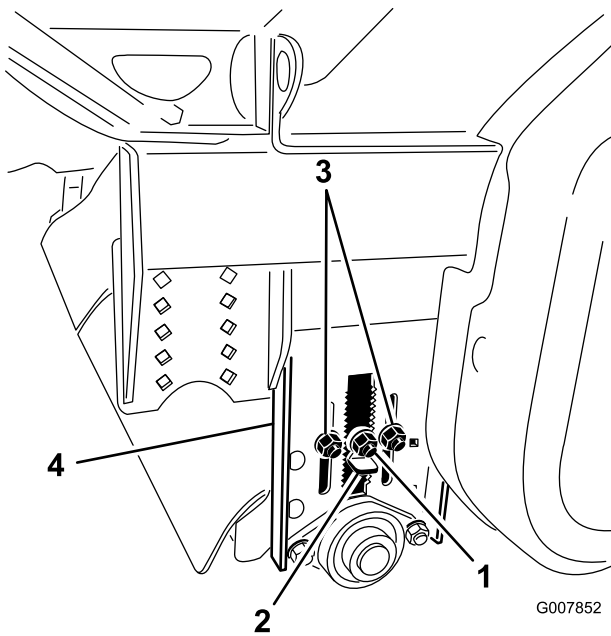

Figure 29
2. Loosen the locknut on the height adjustment key (Figure 29) so it can be pulled out approximately 13 mm (1/2 inch).
3. Loosen the roller-height-adjustment locknuts (Figure 29).
4. Pull out the height-adjustment key and move the rear roller up or down by sliding the roller-height-adjusting plate to the desired height (Figure 29).